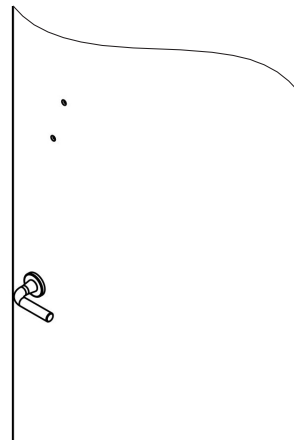

Figure 31
2. Countersink holes on opposite face of door to fit supplied oval head screws. (Figure 31)